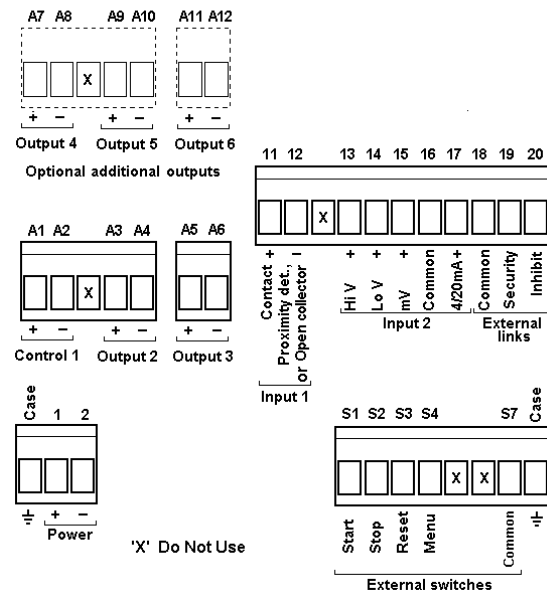

Fig 10 Installation and terminal connections
- Fix panel mounting clips to opposite sides of the instrument and tighten until the instrument is secure as shown in Fig 10. Four clips are required to achieve an IP65 seal between the instrument enclosure and the panel.
- Connect the panel wiring to the rear terminal block(s) as shown in Fig 10. To simplify installation, the terminals are removable so that panel wiring can be completed before the instrument is installed.